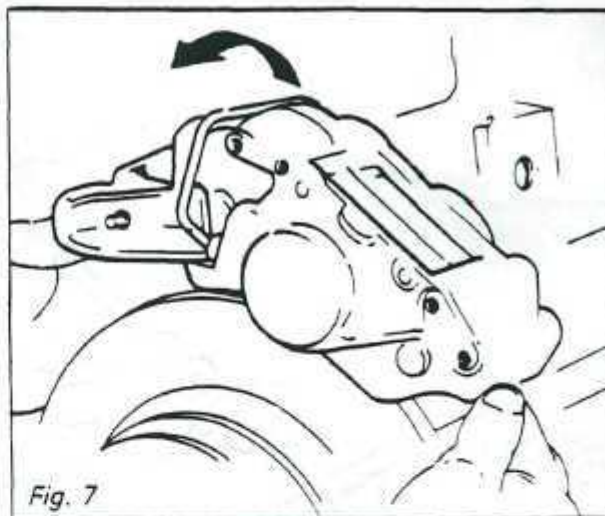
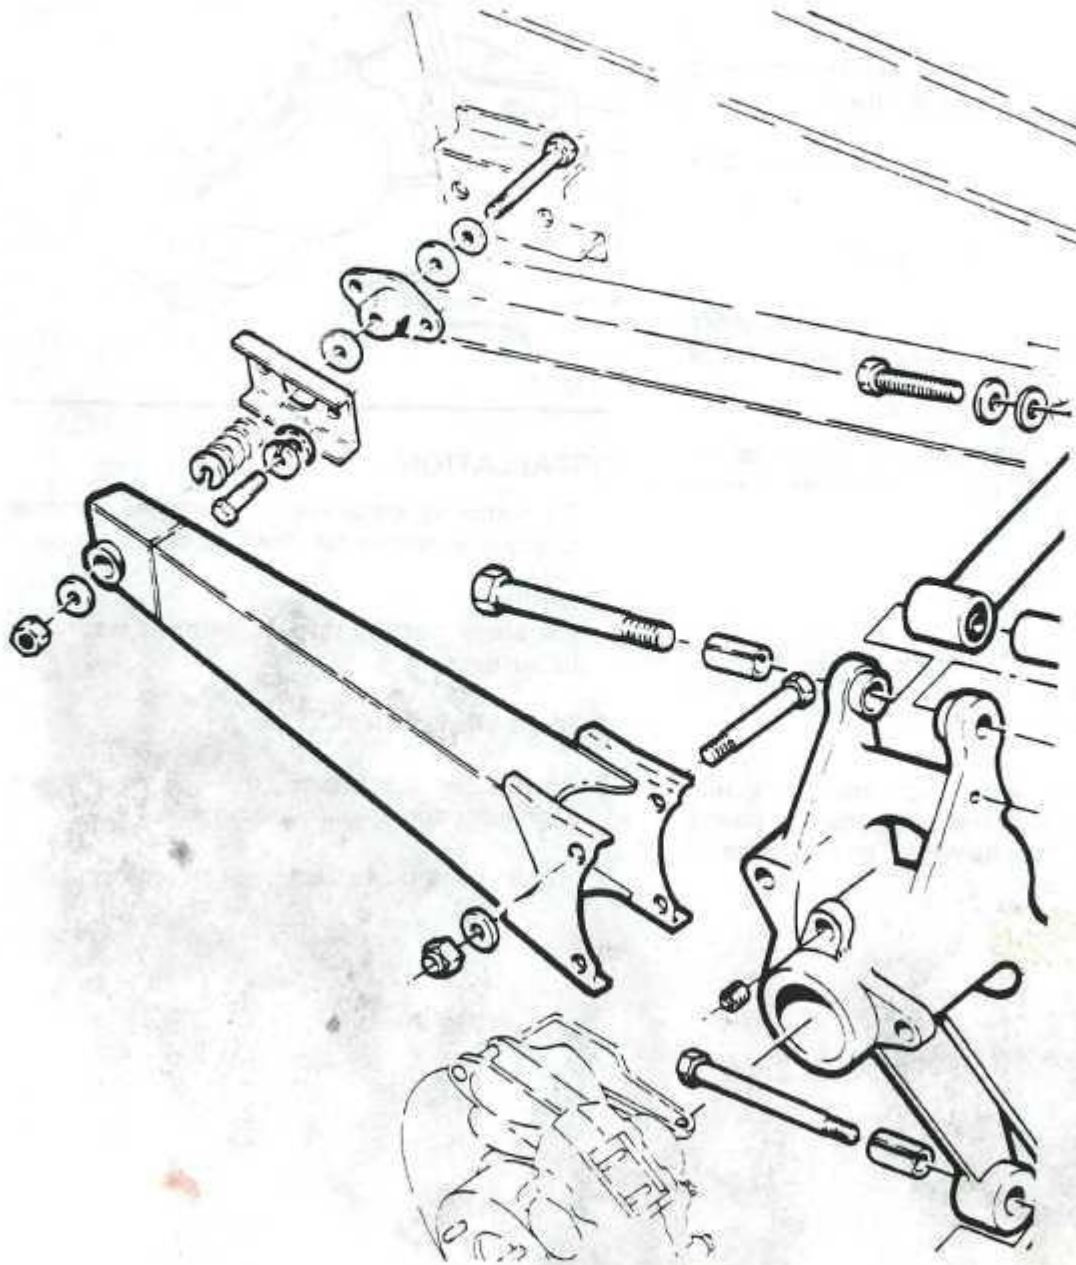

Fig. 7
Fig. 8
6. Remove two (2) bolts securing brake caliper assembly to hub carrier. Remove caliper assembly. *Fig. 7*
8. Remove two (2) nuts and bolts, securing trailing arm to hub carrier and disconnect trailing arm from hub carrier.
9. Remove trailing arm pivot bolt and nut. Remove trailing arm from car. Inspect trailing arm bushing for damage and replace if necessary. *Fig. 8*